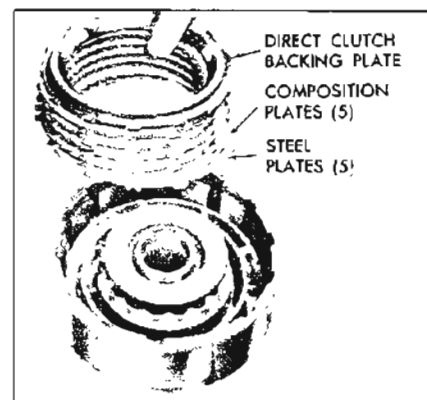

Figure 5-640
8. Install five (5) composition and five (5) steel clutch plates, starting with steel and alternating steel and composition. The steel plates must have the notches in the drive lugs one above the other. See Figure 5-640.